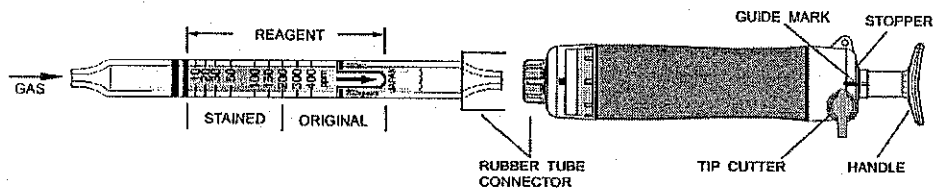

Fig.1
- ② Insert the detector tube into the aspirating pump securely as shown in Fig.1. (Arrow mark shall point to the pump.)
- ③ Align the guide marks on the shaft and stopper of the aspirating pump.
- ④ Pull the pump handle at a full stroke until it locks and wait for 1.5 minutes or until the completion of sampling is confirmed with the flow indicator of the pump. (See descriptions about the flow indicator in the instruction manual of the pump.)
- ⑤ On completion of sampling, read the scale at the maximum point of the stained layer.
- ① Temperature: Correct the tube reading by following temperature correction table for Isobutyl acetate.